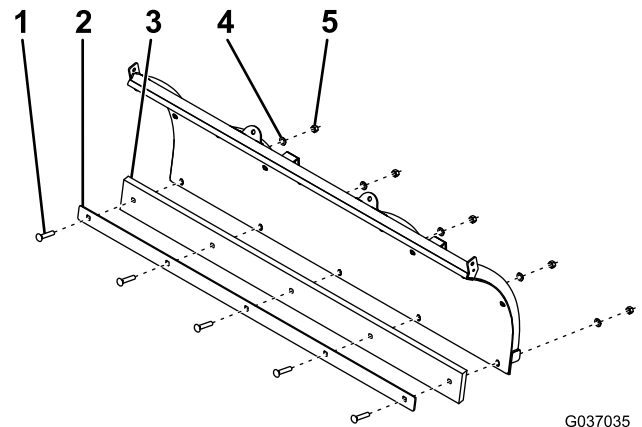

**Figure 2**
1. Attach the trip stops to the blade using 2 hex-head bolts (5/8–11 x 3 inch) and 2 nylon locknuts (5/8–11 x 3 inch) as shown in Figure 2.